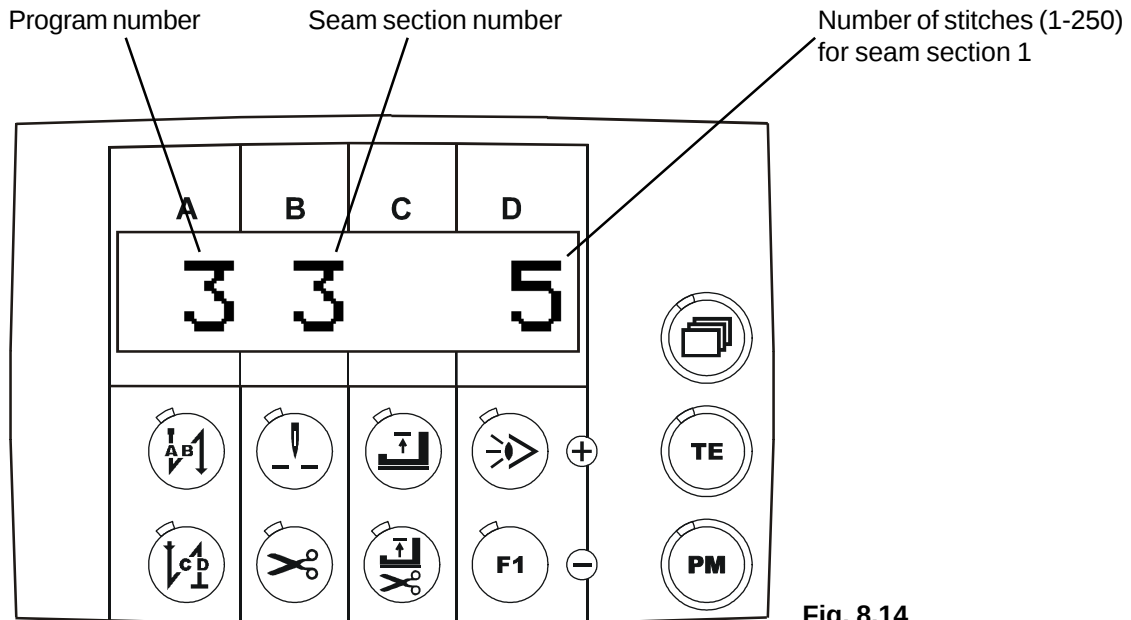

Fig. 8.14
- 9.2 Press the **paging key** until the display **Fig. 8.14** appears